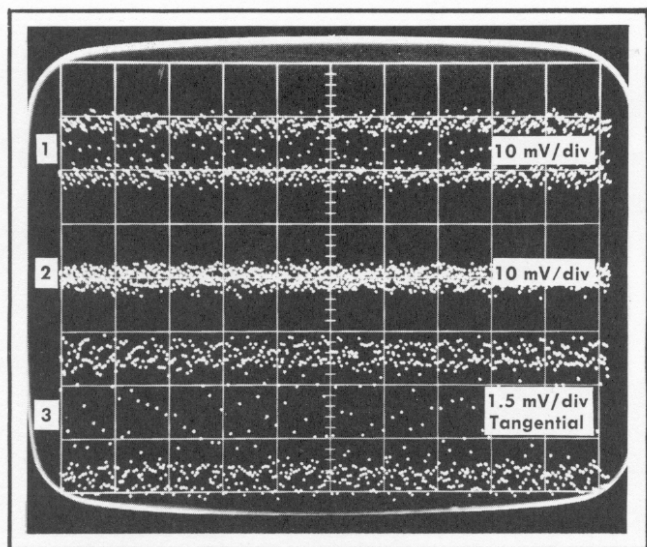

Fig. 5-7. Triple exposure of Tangential noise measurement.
d. Refer to Fig. 5-7 for displays of the following noise measurement procedure.
(1) Obtain a display of two traces.
(2) Adjust the variable attenuator until the two traces blend together just to the point at which they appear as one trace.
(3) Change the Type 284 Amplitude switch to 1.0 V, 10 times the signal amplitude. The display now has tangential deflection factor of $1.5 \text{ mV}/\text{div}$.
The 5 mV tangential display noise limit includes 3.33 graticule divisions (3) of Fig. 5-7. Check that the bottom edges of the two traces are not more than 3.33 divisions apart. Waveform (3) measures as 3.6 mV tangential noise.
The noise displays of Fig. 5-7 have a noise deflection factor based upon the signal amplitude, the sampling unit Units/Div setting, the fact that the final trace separation is twice the RMS noise, and that the tangential noise is 3 times the RMS noise. The square wave signal amplitude that makes two traces appear as one sets the trace separation to twice the RMS noise. The procedure used here then permits a noise deflection factor to be determined by dividing the input mV/div deflection factor by 2 (trace separation is 2 times the RMS noise), multiplying by 3 (tangential noise is 3 times the RMS noise) and then dividing by 10 (the signal amplitude change factor).